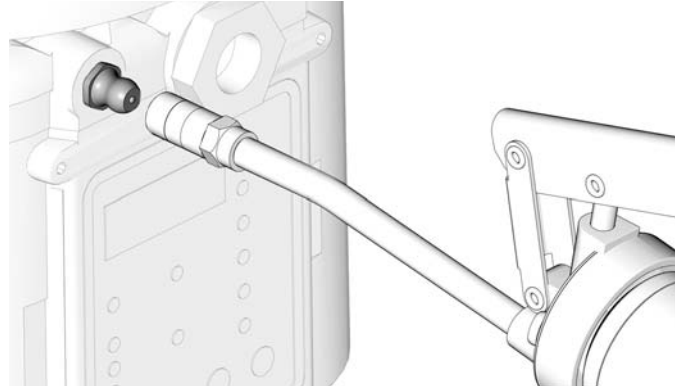

FIG. 34
- Fill the pump with grease through the grease zerk using a grease gun (FIG. 34).